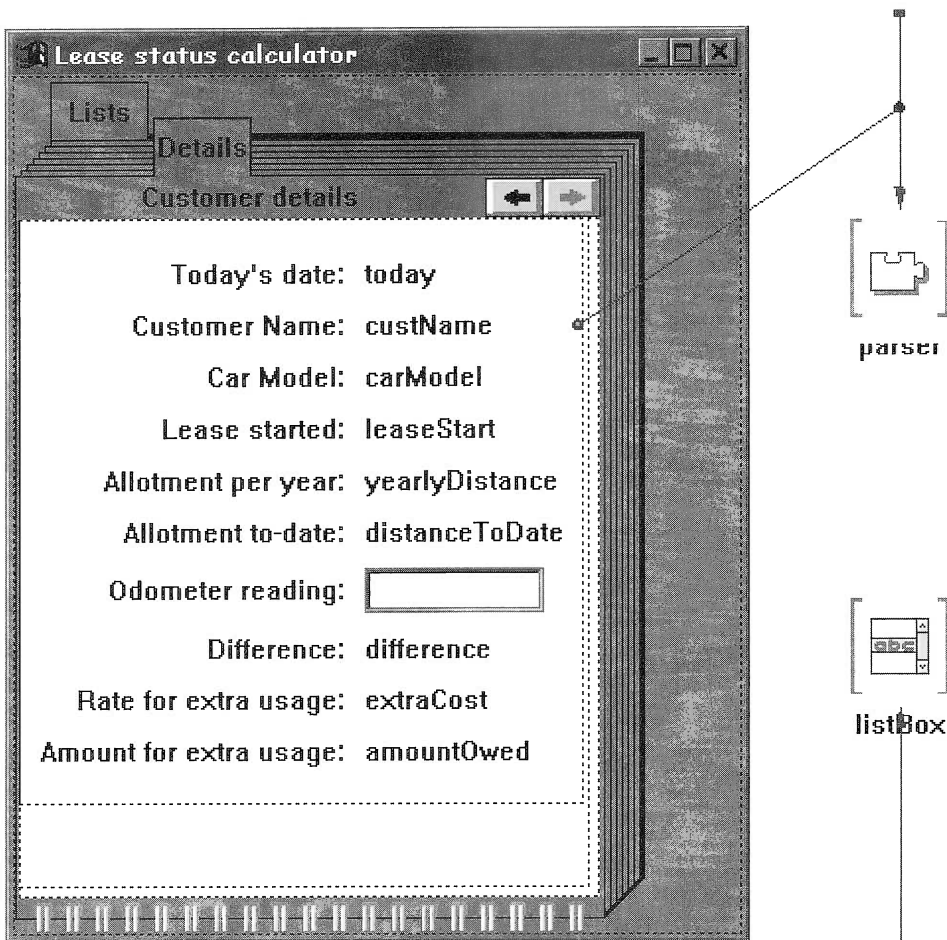

Figure 189: Initializing the IVBVariable parts
- ❑ Select the **Details** tab of the notebook which flips to the second page as shown in Figure 189. Click on the CustomerCanvas and connect the customerCanvas(leaseFileParser) attribute, as a parameter to the existing connection from ready to parser variable(this).